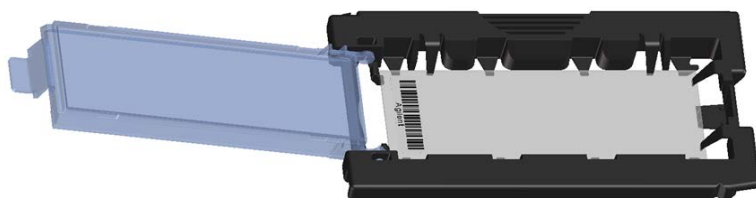

Figure 10 Slide inserted in slide holder
- d** Gently lower the slide into the slide holder. See Figure 10.